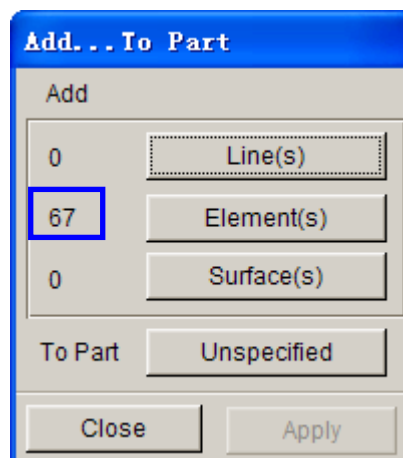

Figure 44: Indicating selected elements
10. Select **OK** on the **Select Elements** dialog box. You will find the number of elements (67) is shown on the left side of the **Element(s)** button as below, as indicated in Figure 44.